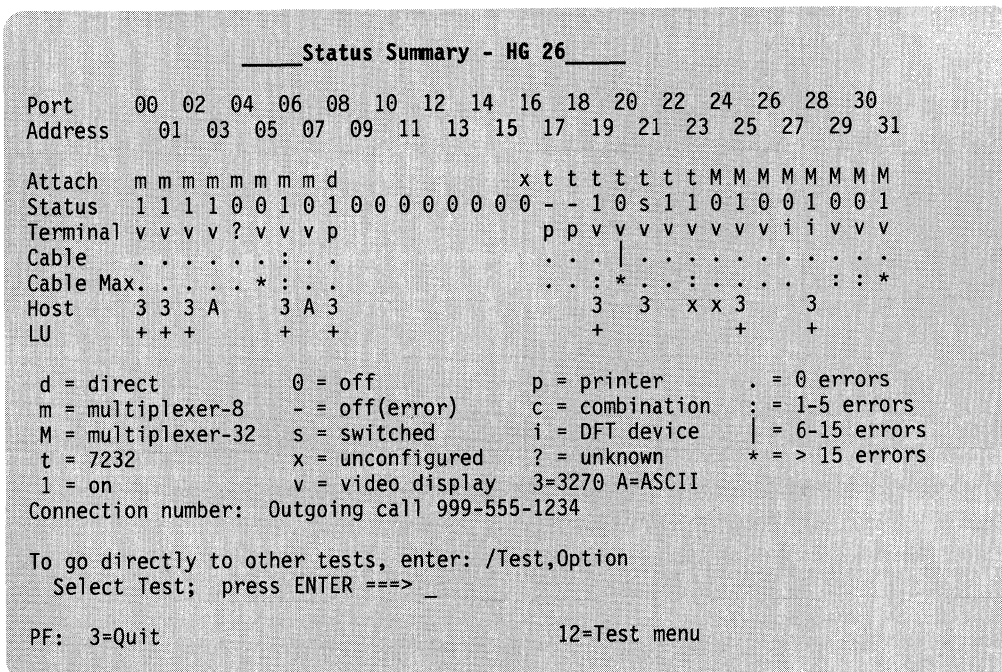

Figure 3-10. Example of a Status Summary Screen
**Test 3, Option 1** The panel shown in Figure 3-10 is displayed.